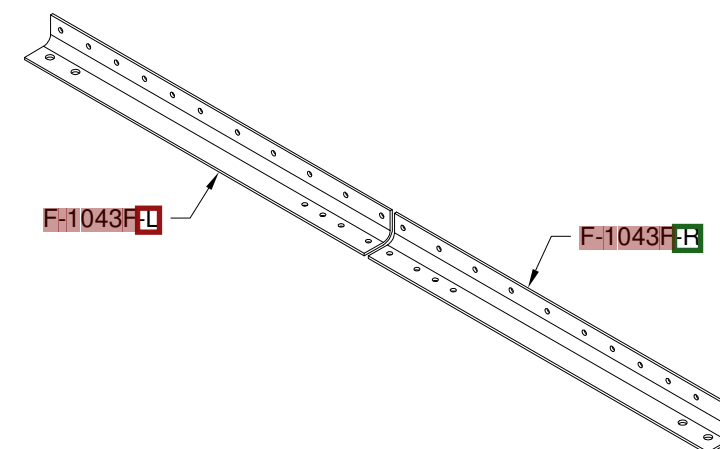

FIGURE 5: BREAK APART SEAT RAIL SUPPORT ANGLE
Step 5: Break apart the two **F-1043F** Seat Rail Support Angles into individual **F-1043F-L** & **F-1043F-R** Seat Rail Support Angles as shown in Figure 5.